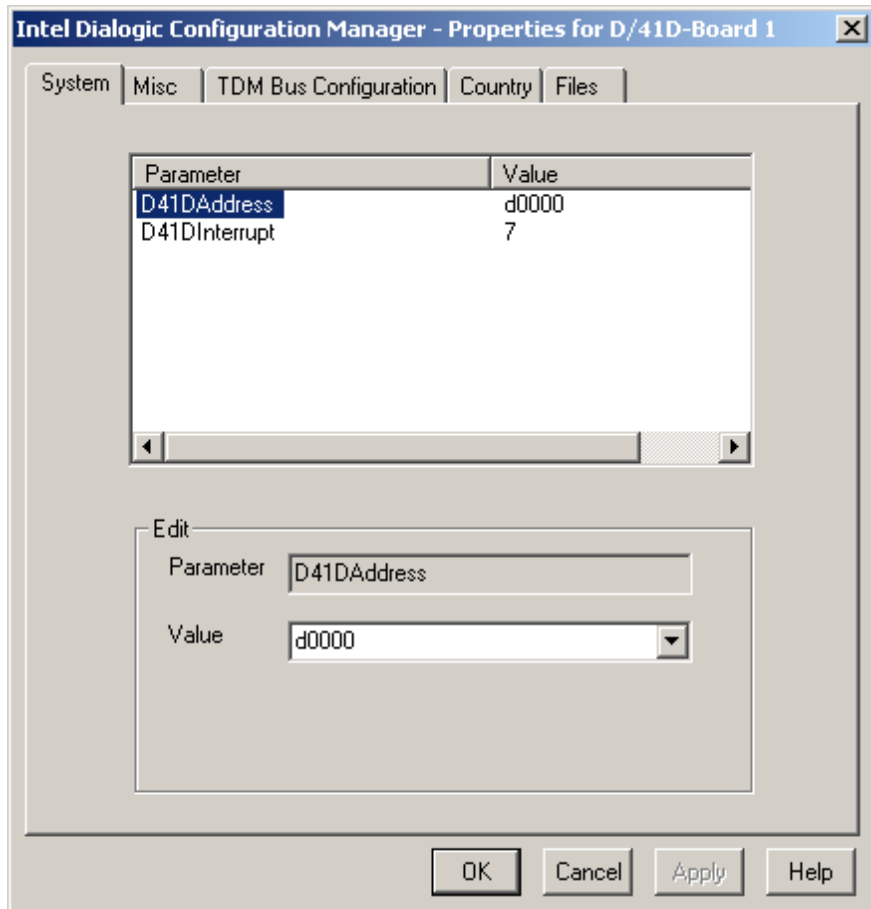

Figure 11. DCM Property Sheets
4. Click the **Next** button to display the DCM property sheets for the board (Figure 11). The property sheets display the board's configuration parameters, grouped together on tabs according to the type of board functionality they affect.